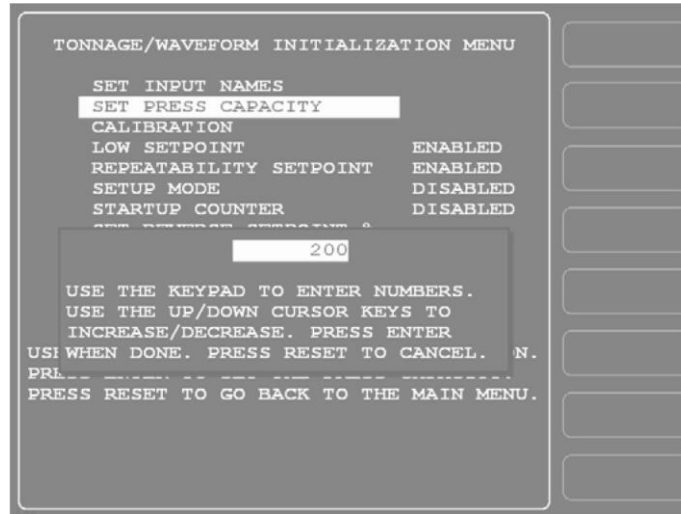

Figure 3-21. Tonnage/Waveform Initialization Menu with Numeric Entry Window Displayed
2. Select “SET PRESS CAPACITY,” and press ENTER to display the Numeric Entry window (see Figure 3-21).